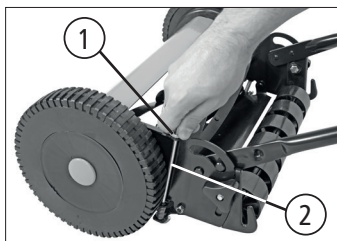

Fig. 05
1 - Adjust the height of the butterflies (1) on the tether (2) until the blade touches the reel. Make sure that both sides of the lawn mower are even, observing that the blade is perfectly parallel to the reel line across its full length (Fig. 05).